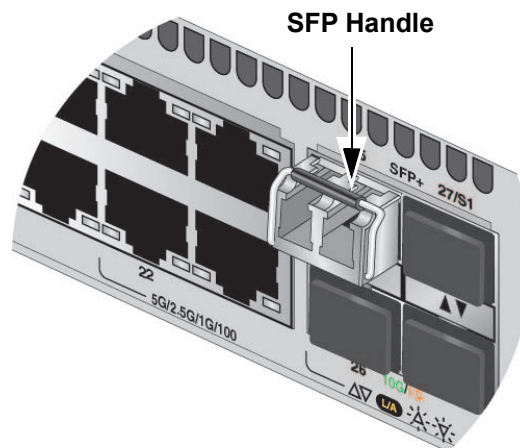

Figure 70. Positioning the SFP or SFP+ Handle in the Upright Position
5. Verify the position of the handle on the transceiver. If the transceiver is in a top port, the handle must be in the upright position, as shown in Figure 70. If the transceiver is in a bottom port, the handle must be in the down position.